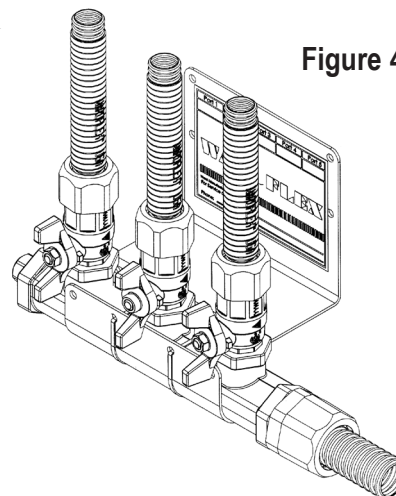

Figure 4.34
- B. Manifolds shall be rigidly installed and may be mounted in any orientation. Mounting can be done with mounting brackets (figure 4.34), supplied mounting holes on manifolds (if equipped) or rigid piping into a non-movable gas appliance.